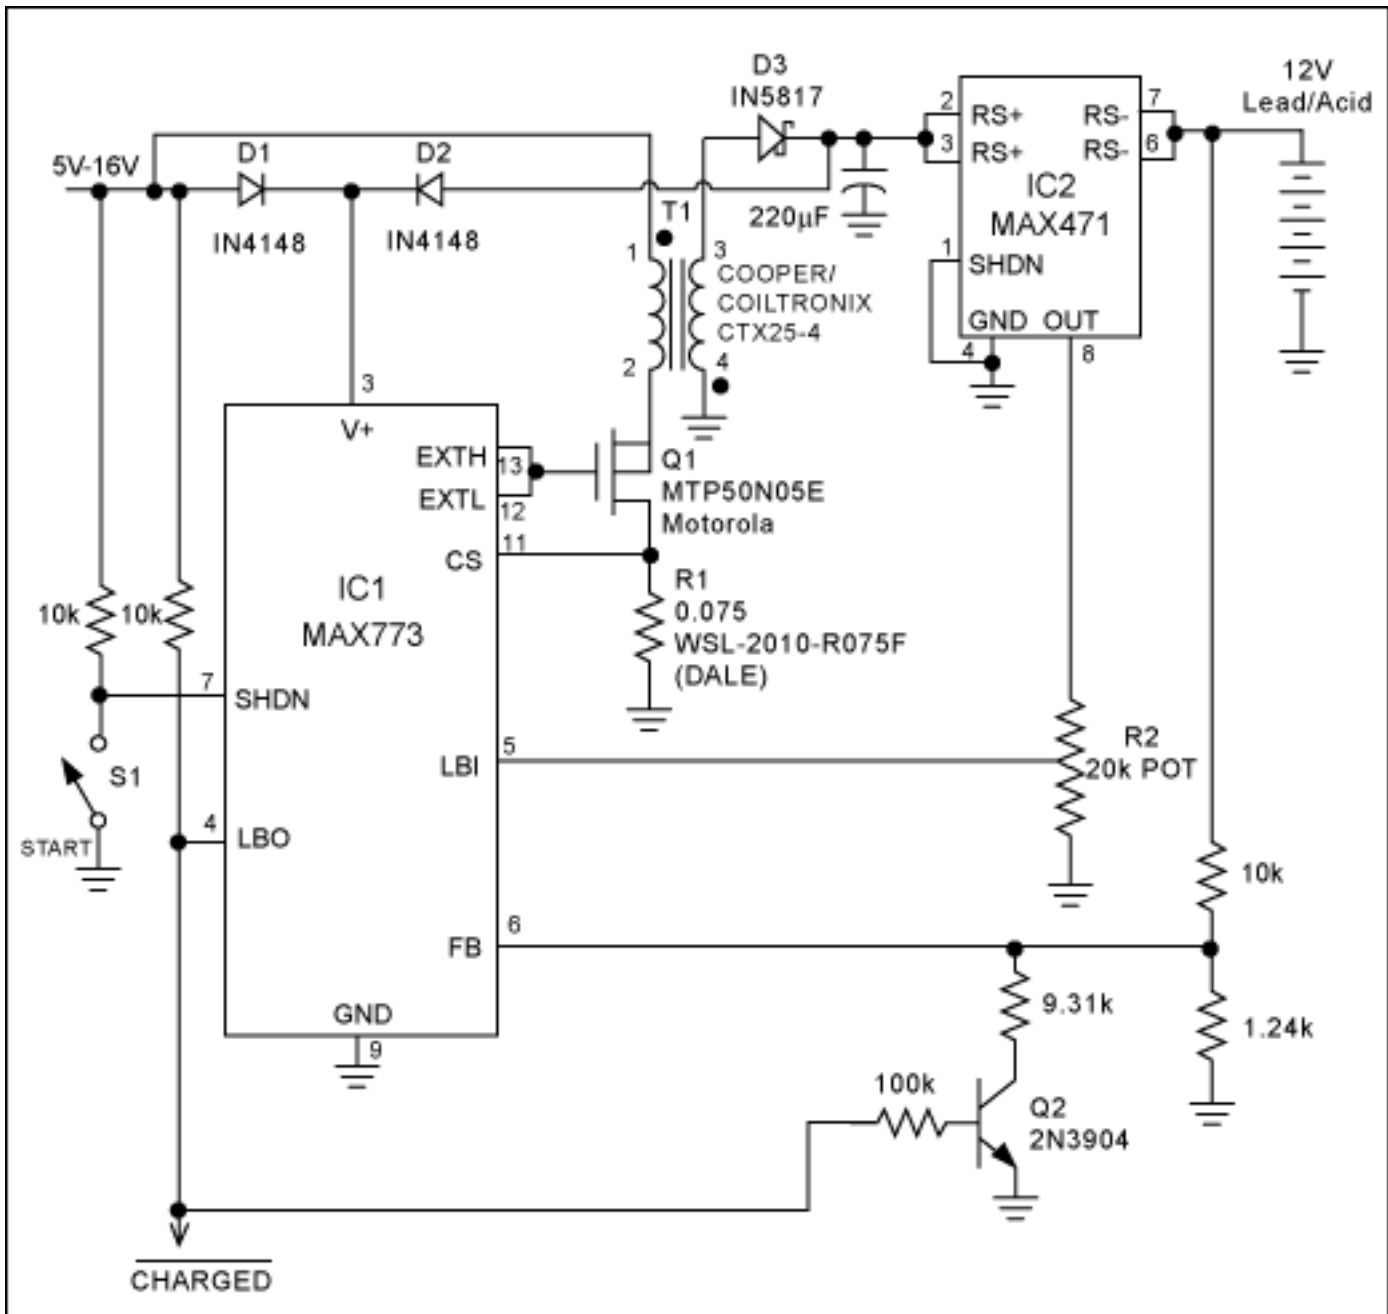
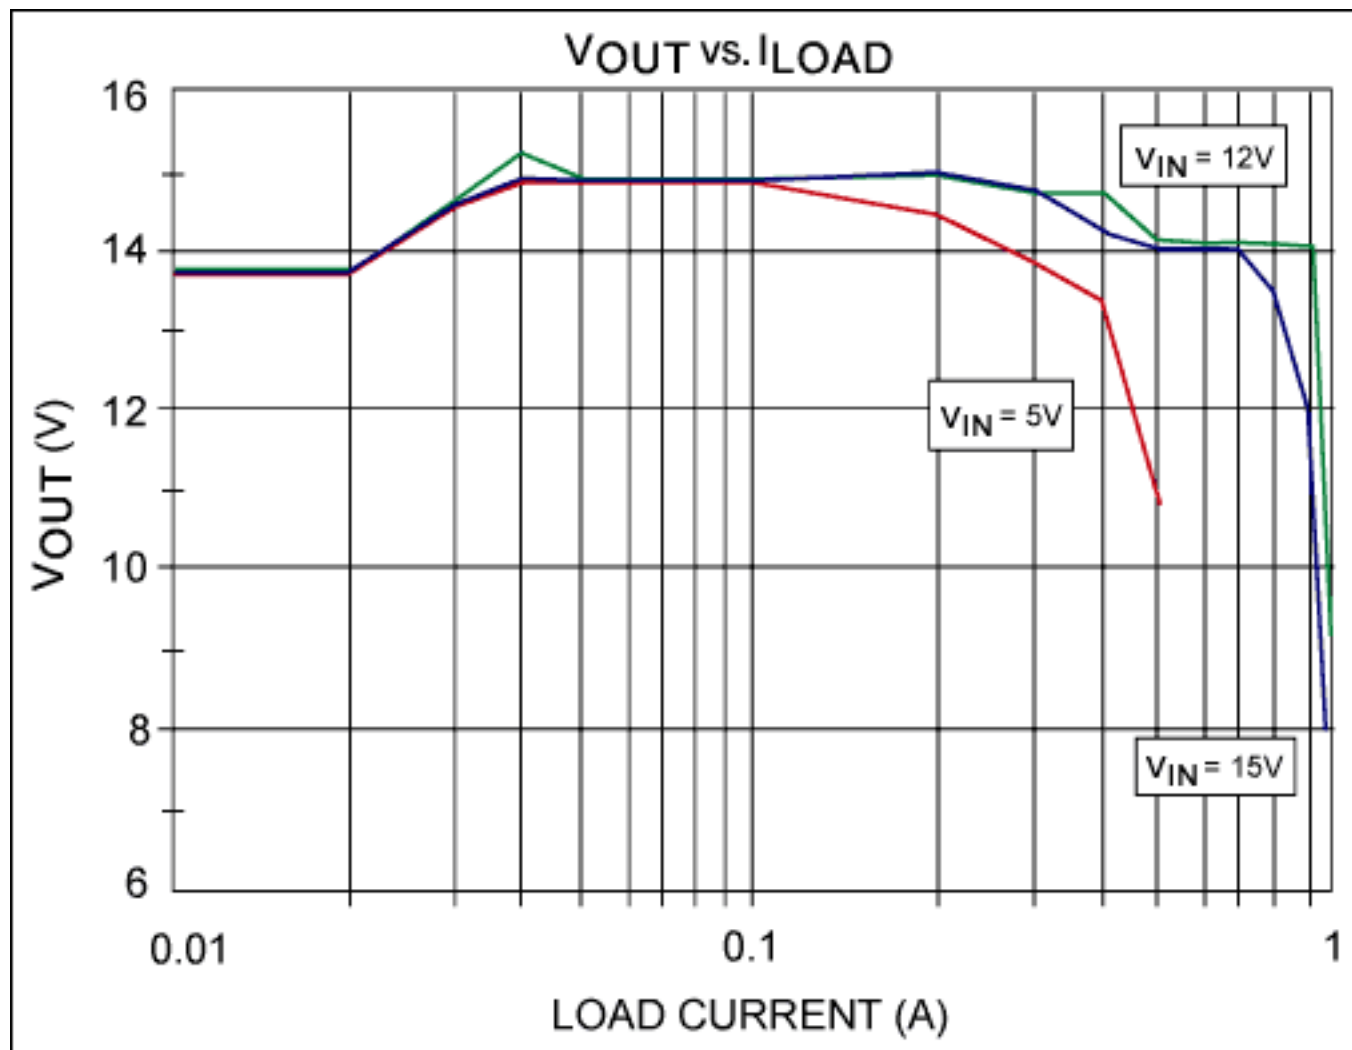

Figure 1. This lead-acid-battery charger applies high voltage (15V) until the battery is charged and then applies 13.8V to maintain a small trickle charge.
Figure 2. For the circuit in Figure 1, the applied voltage and charging current vary, as shown, during a charge cycle.
The circuit shown in **Figure 1** charges lead-acid batteries in the conventional way: A current-limited power supply maintains a constant voltage across the battery (2.4V/cell or so, as specified by the battery manufacturer) until the charging current decreases below a current threshold defined by the capacity of the battery. At this point, the charger is placed in a trickle-charge mode. The current threshold is typically  $0.01C$ , where  $C$  refers to the battery capacity, which is specified in ampere-hours. When charging a battery, the term "C rate" refers to the current required, in theory, to charge a battery to its full battery capacity  $C$  in one hour. In actuality, power lost during the charge cycle ensures that all batteries charged at their C rate take more than an hour to reach full charge. Ideally, you could charge a 5A-hr battery in one hour if the charge current is 5A. Also, ideally, a C/10 charge rate (500mA) charges the same battery in 10 hours. However, the power loss mentioned previously increases these charge times beyond the two time spans stated above.
In Figure 1, the boost converter (IC1) applies a constant voltage of nominally 15.2V to the 12V lead-acid battery until it is fully charged. To maintain a trickle charge (overcharging current) of less than 0.001C thereafter, the charging voltage is lowered to about 13.6V. Using a flyback transformer instead of an inductor isolates the battery from  $V_{IN}$  and allows  $V_{IN}$  to range above and below the charging voltage. To begin a charge cycle, press the Start switch momentarily.
**Figure 2** shows the output voltage versus the load current, tested with a resistive load instead of a battery, of the circuit in Figure 1. From right to left, this graph gives the variation of charging current with battery voltage as a battery is charged. At first, the converter is out of regulation, because the battery voltage is less than 12V and therefore is current-limited (supplying maximum current). As the battery voltage rises, the charging current then varies, as shown.